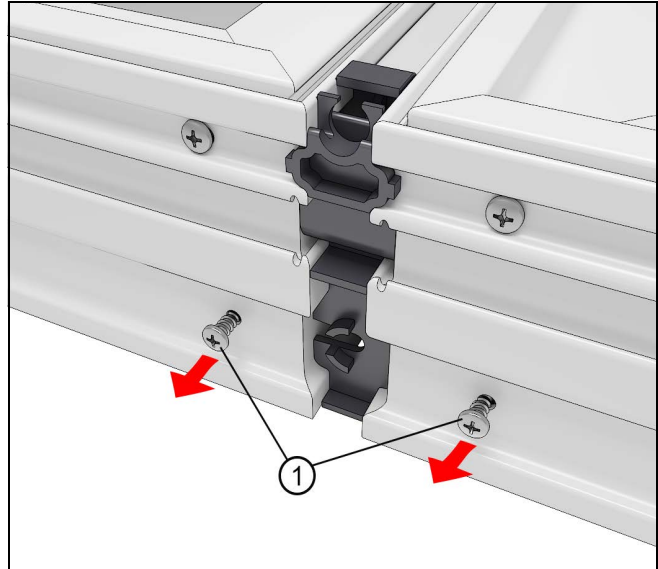

Figure 5
3. Loosen the screws from the interior corners of the windows on both ends of the mull. See Figure 5. (Remove screws from sill completely for sliding window products.)